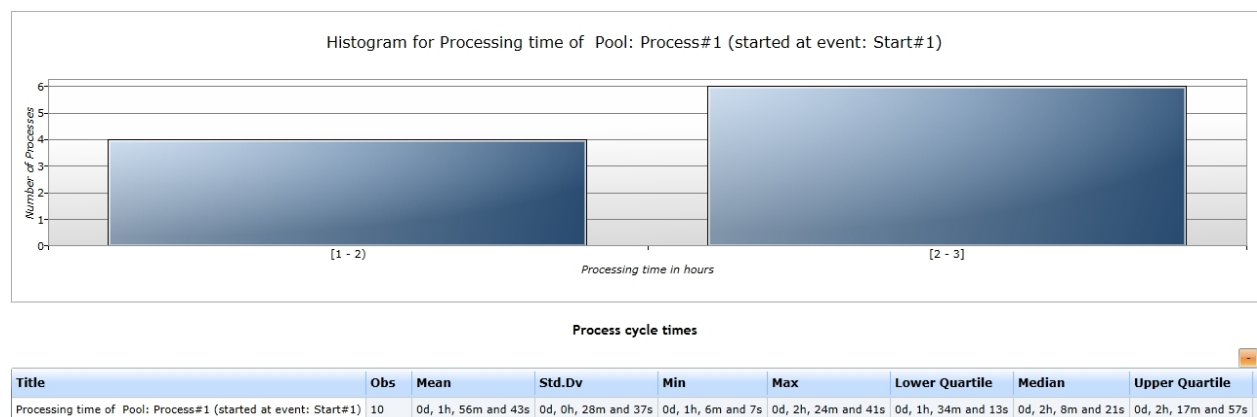

Figure 1: Process cycle times
- Therefore the process will start ten times (see Figure 1 below) within the simulation time